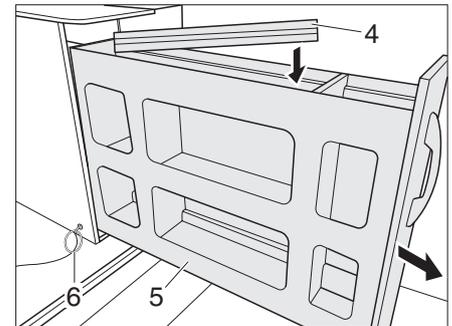

Fig. 53 Stow support bars
- ▶ Pull on the eyelet (Fig. 53,6). The locking device of the pull-out cabinet is released.
- ▶ Open the pull-out cabinet (Fig. 53,5) on the right side of the vehicle and stow the support bars (Fig. 53,4).